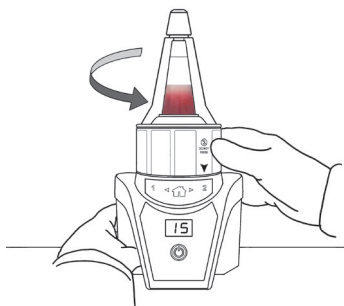

Figure 10
5. Start the plasma removal mode by rotating Disposable Unit ▼ to Position 2 (Figure 10).